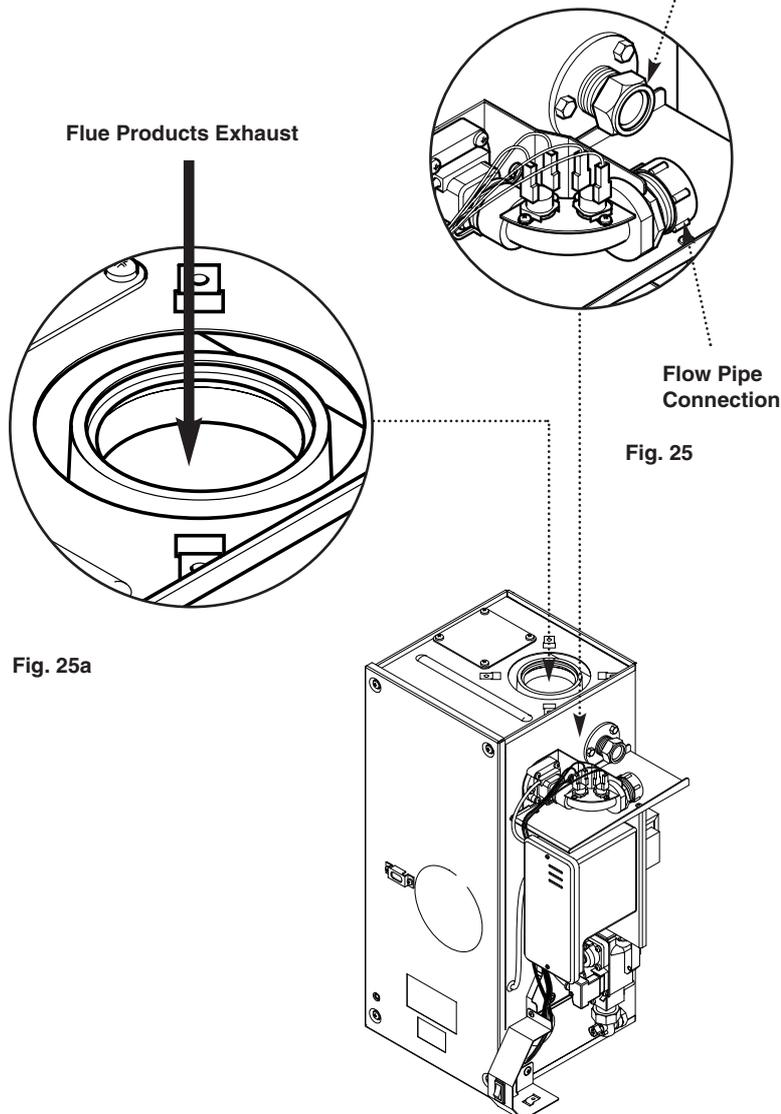

Fig. 25a
**NOTE: To ensure the correct operation and integrity of the condensate drainage system** - Carefully pour approximately 1 cupful (250ml) of water into the flue products exhaust, at the top of the heat exchanger (Fig. 25a) to ensure a seal is made in the trap.